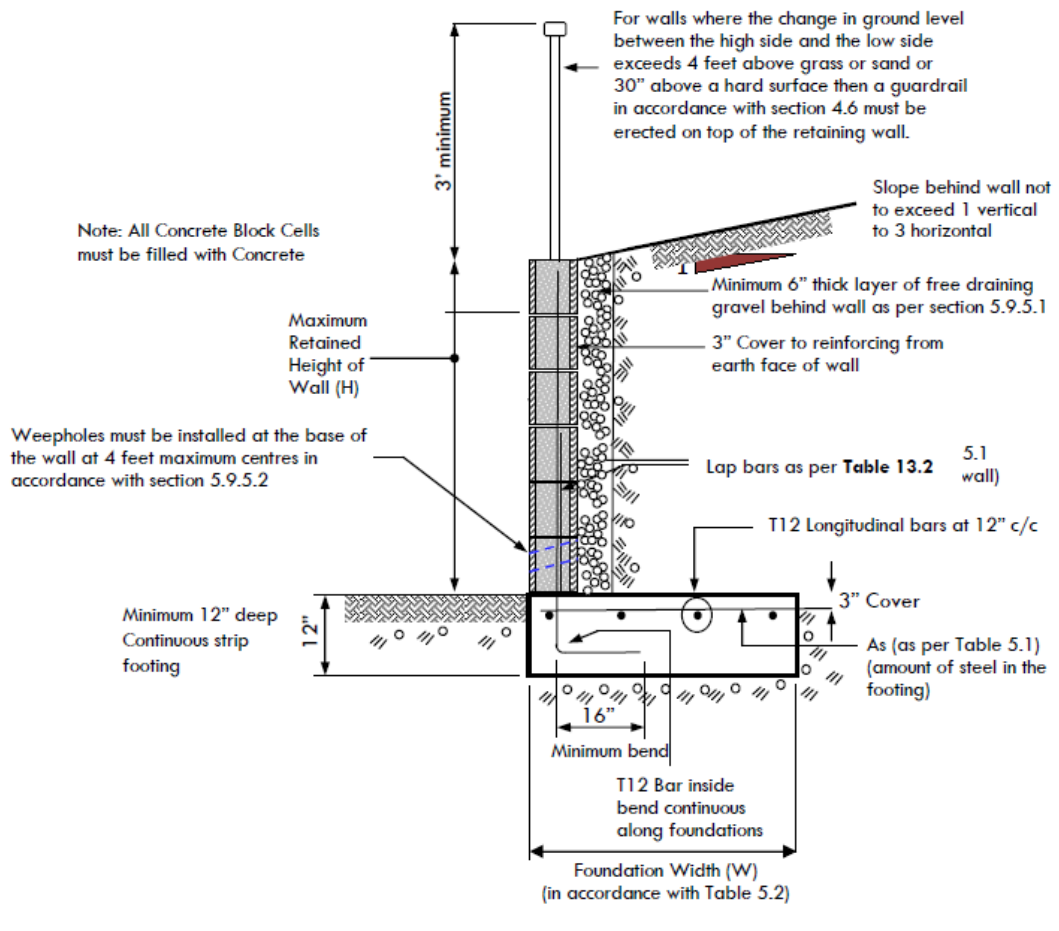

Figure 5-4 - Retaining Wall Type 1
The section of wall to be repaired is approximately 4' in height at the highest point and should be designed as a "Wall Type 1" as per figure 5-4 of the Bermuda Code, see figure on next page.
7. The wall types shall be as per Figures 5.4, 5.5 and 5.6.